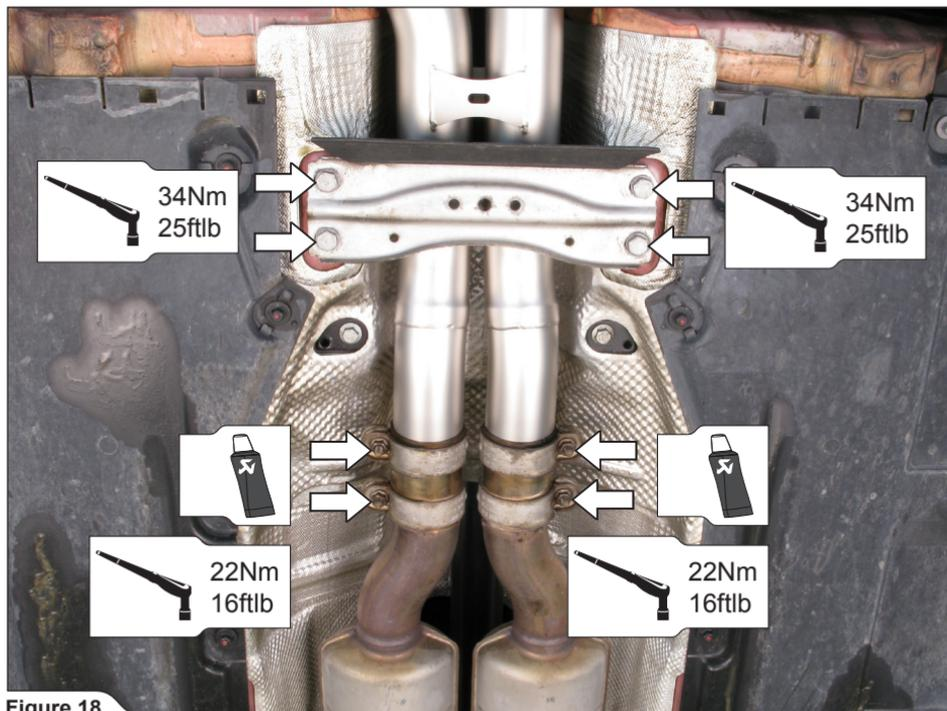

Figure 18
3. Adjust the stock double clamps on the middle off the pipes' joints, tighten the clamps to the specified torque and reinstall the chassis reinforcement back onto the vehicle (**Figure 18**).